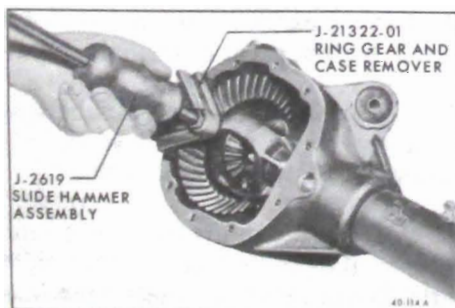

Figure 40-93 Removing Differential Case Assembly
9. Remove two ring gear retaining bolts from differential case and install Ring Gear and Case Remover J-21322 with slide hammer as shown in Figure 40-93. Remove case assembly and place right and left bearing